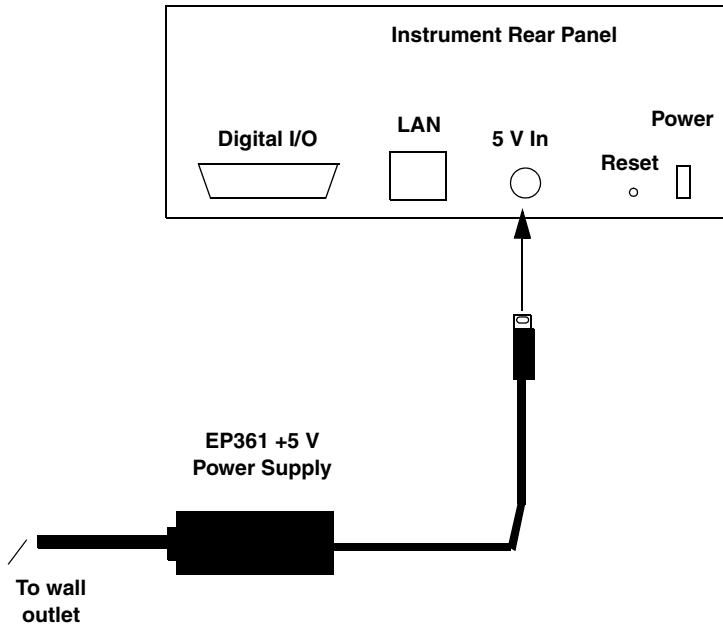

Figure 6: Attaching a +5 V Power Supply to the Instrument
1. Connect the +5 V power supply to the power connector on the rear panel of the instrument. Refer to Figure 6.
3. Press the Power switch on the rear panel of the instrument, shown in Figure 6, to turn on the instrument.